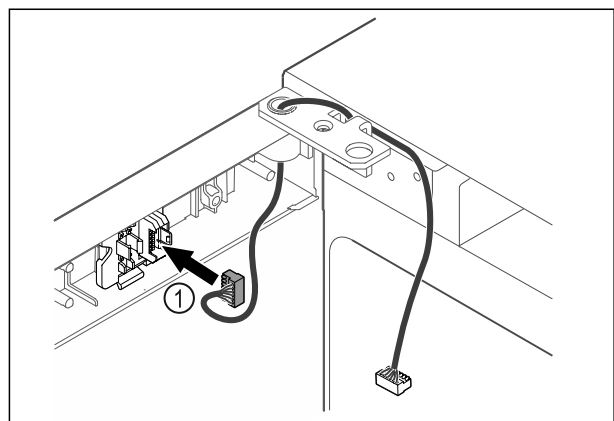

Fig. 38
- ▶ Put the plug *Fig. 38 (1)* in the plug holder.